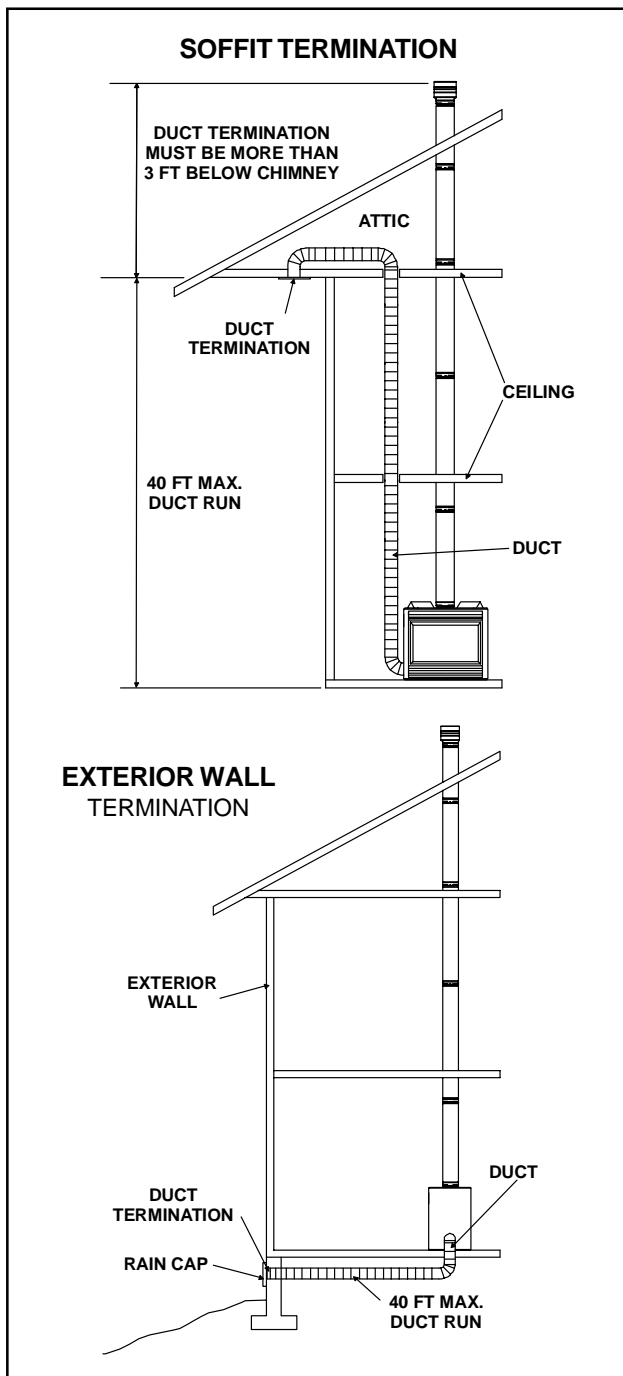

FIGURE 2
The duct run must be limited to a maximum distance of 40 feet from the fireplace pipe collar to duct termination. This will provide the least restriction to air flow. No more than four 90 degree elbows can be used. The duct run may be horizontal, vertical inclined or any combination of these for all models. Vertical duct runs must be at least three (3) feet below the fireplace chimney flue exit. See Figure 2.